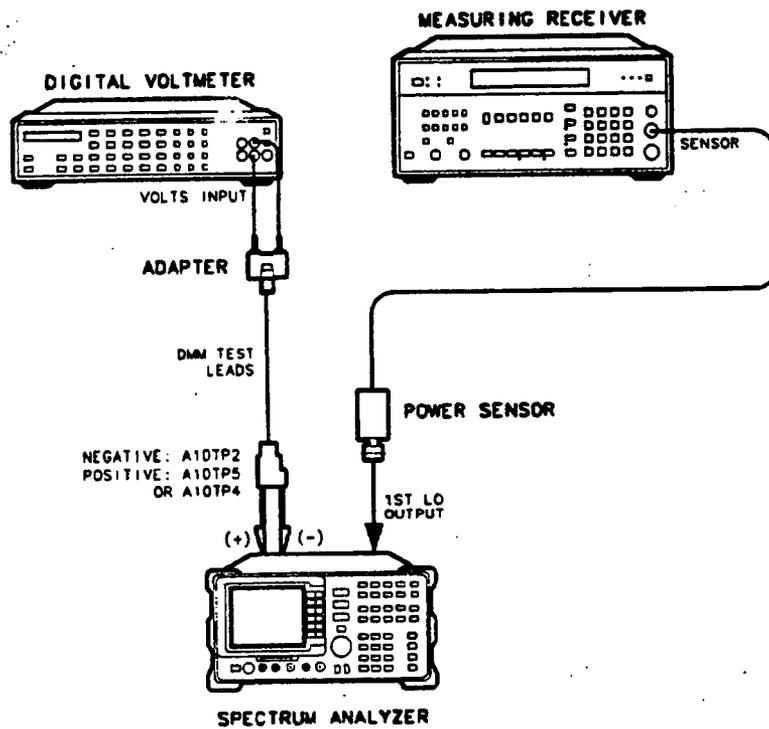

Figure 2-26. First LO Distribution Amplifier Adjustment Setup
3. Connect the positive DVM test lead to A10TP5, GB (gate bias). Connect the negative DVM test lead to A10TP2, AGND (analog ground). See Figure 2-26.